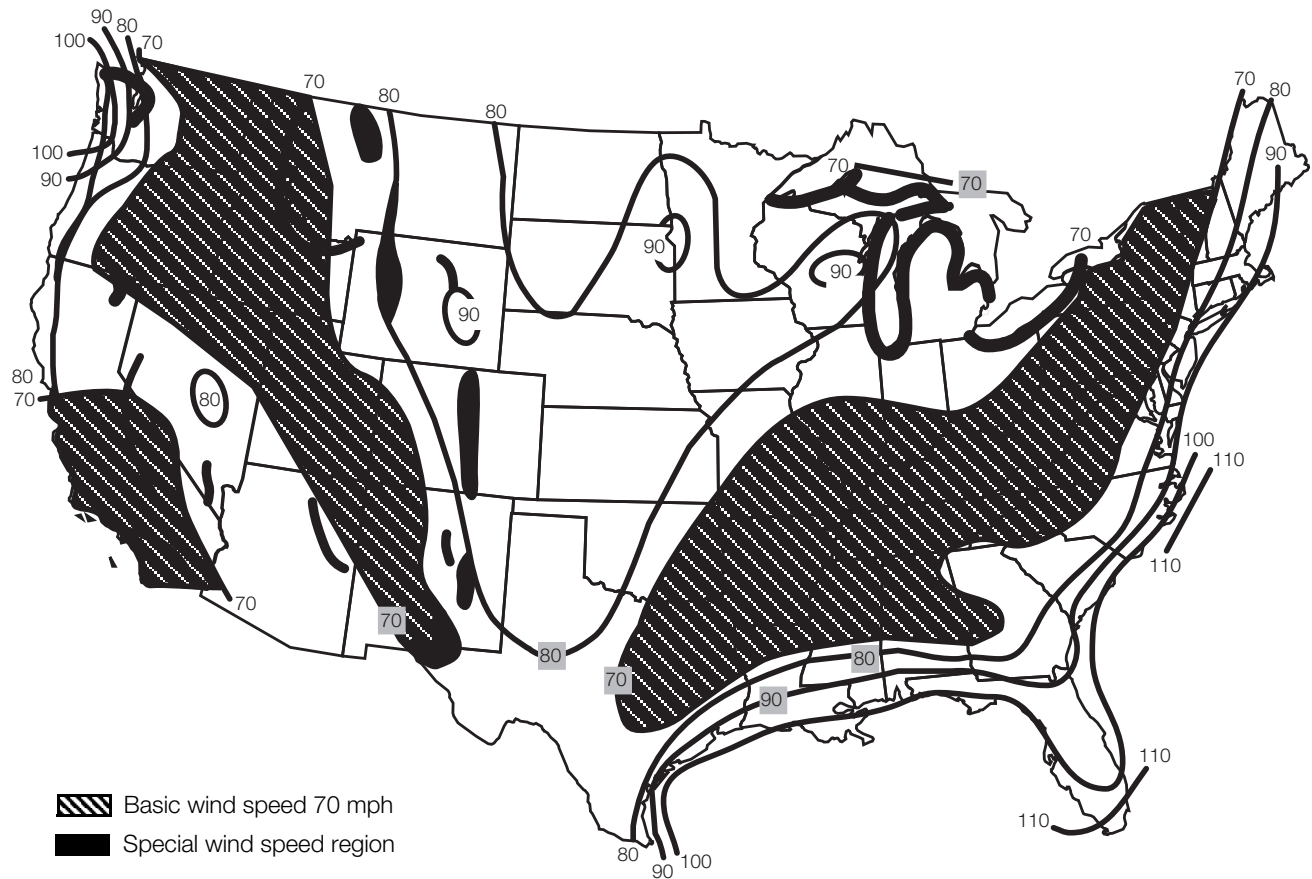

Figure 22-5.
- Minimum basic wind speed: This may be taken from Figure 22-5, which is a map of the USA superimposed with wind speed contours. This map is based on a 50-year mean recurrence interval which has traditionally been accepted as a reasonable risk. If local records indicate higher